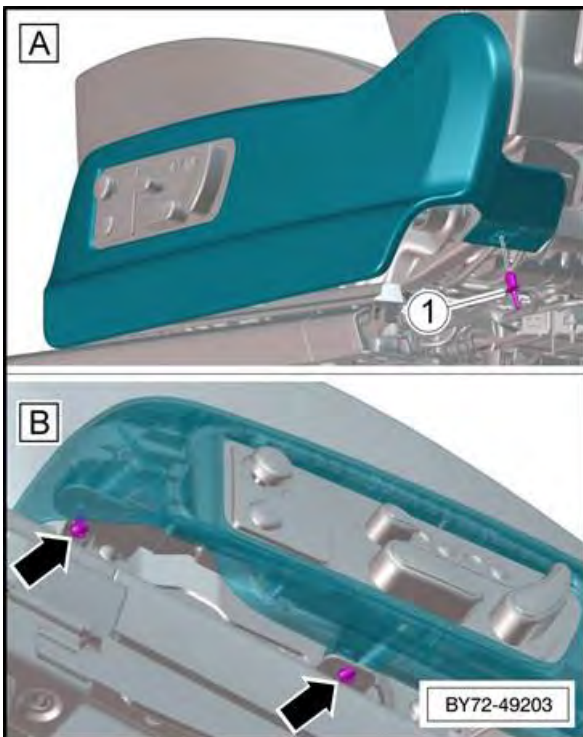

Figure 16
- Remove the expansion rivet -1- at rear of seat (see Figure 16 A). To remove the expansion rivet, push in the centre pin then remove rivet
- On the underside of the seat remove the two fixings—arrows- (2.5Nm) (see Figure 16 B)